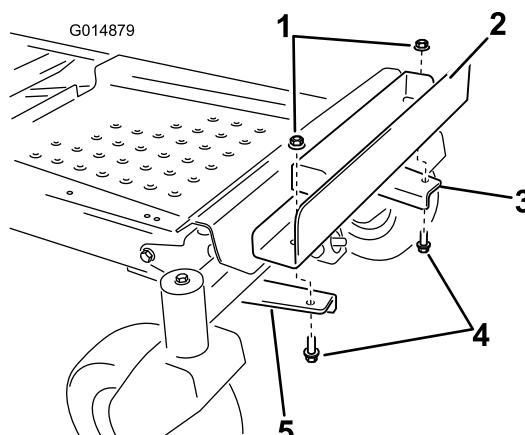

Figure 8
5. Install the weight holding bracket to the mounting brackets (Figure 8). Align the inboard holes in the bracket with the mounting brackets installed previously. Make sure the bracket is centered on the frame. Secure with two bolts (3/8 x 1 inch) and two lock nuts (3/8 inch).